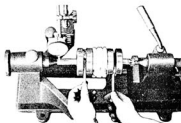

Fig. 4-16-19
- 1) To inspect the alignment of the crankshaft, place it between centers or on V blocks. (Figs. 4-16-19)